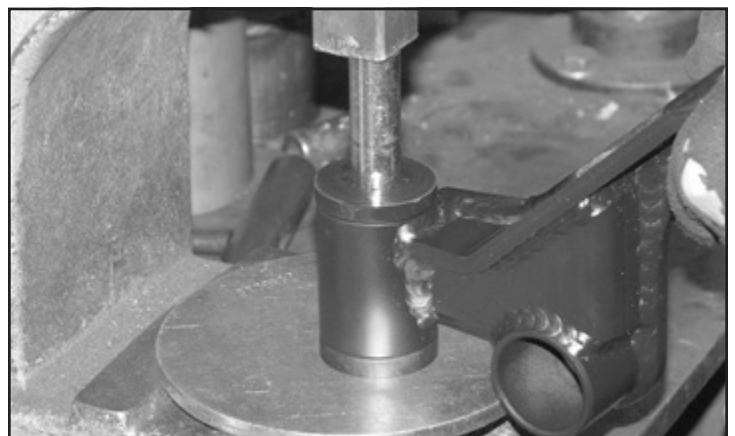

FIGURE 32 - STEP 29
29. Locate the rear diff mount (FT30585BK). Install two of the Fabtech (FT1020) bushings and one sleeve (FT181) into the barrel on the differential bracket. **SEE FIGURE 32**